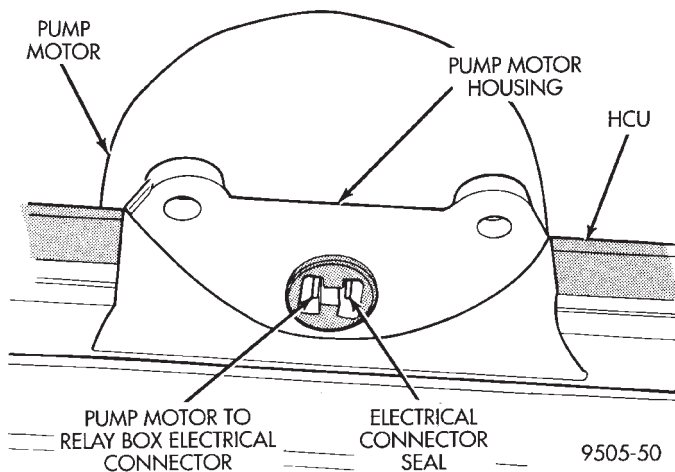

Fig. 28 Pump Motor To Relay Box Electrical Connection Seal
(1) Be sure electrical connector seal (Fig. 28) is installed in pump motor housing before installing relay box. If electrical connector seal is cracked, brittle or in any way damaged it must be replaced before installing relay box.